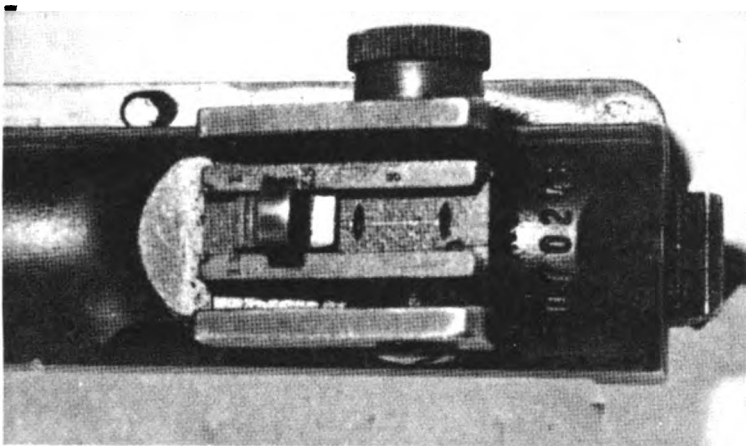

Figure 1
- (1) Adjust rear sight: (See fig. 1)